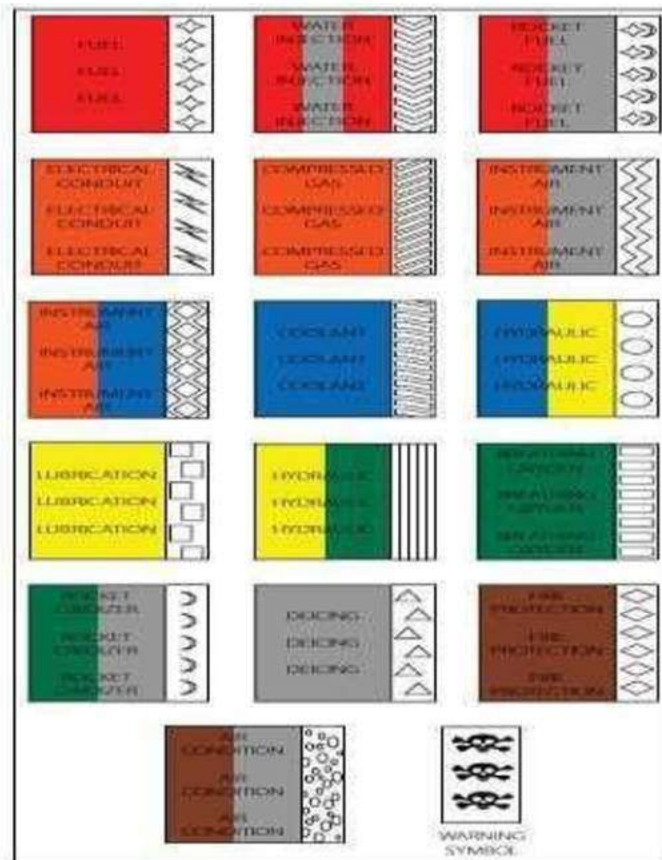
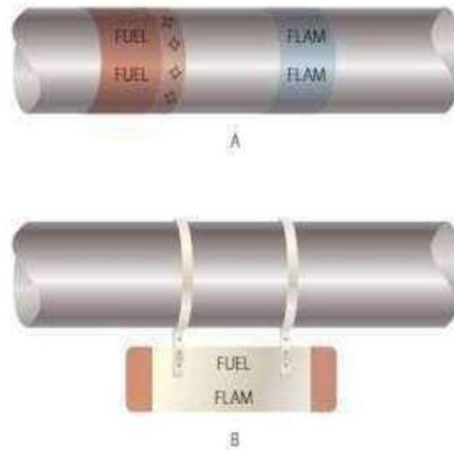

Fig 6.8
Fig 6.9
Fluid lines in aircraft are often identified by markers made up of color codes, words, and geometric symbols. These markers identify each line's function, content, and primary hazard. Figure 6.8 illustrates the various color codes and symbols used to designate the type of system and its contents. Fluid lines are marked, in most instances with 1" tape or decals, as shown in Figure 6.9 (A). On lines 4" in diameter (or larger), lines in oily environment, hot lines, and on some cold lines, steel tags may be used in place of tape or decals, as shown in Figure 6.9 (B). Paint is used on lines in engine compartments, where there is the possibility of tapes, decals, or tags being drawn into the engine induction system. In addition to the above-mentioned markings, certain lines may be further identified regarding specific function within a system; for example, drain, vent, pressure, or return. Lines conveying fuel may be marked FLAM; lines containing toxic materials are marked TOXIC in place of FLAM. Lines containing physically dangerous materials, such as oxygen, nitrogen, or Freon™, may be marked PHDAN. [Figure 6.9]